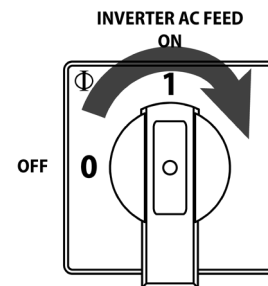

Figure 17. Inverter AC feed position 1 (ON/CLOSED)
Step 3. Energize the inverter by rotating the INVERTER AC FEED switch to position 1 (ON/CLOSED) or closing AC FEED breakers. (See Figure 17).